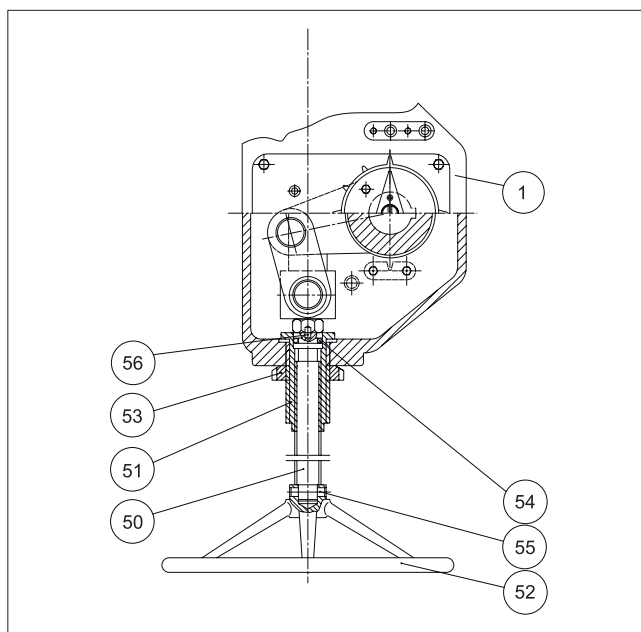

Fig. 24 B1JAR actuator
The B1JAR actuator is otherwise like the B1JA, except that it can be operated manually to bring the piston to the upper position against the spring in case there is no air supply. The B1JA actuator can be changed into a B1JAR by replacing the housing (1) and adding parts (50 to 56), see Fig. 24.
If stiffness or noise occurs when the actuator is operated with the handwheel, check the condition of the bearings (56), see Fig. 24. Other maintenance as described for the B1JA actuator in Section 4.2.
Parts list for Fig. 24: